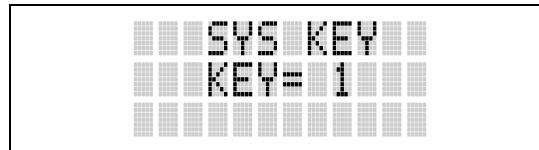
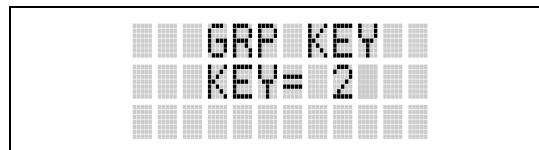

Figure 10-11: System Encryption Key Display
Figure 10-12: Group/Channel Encryption Key Display
3. Use the **▲** or **▼** button to toggle between displaying the system key (Figure 10-11) or the group/channel key (Figure 10-12).